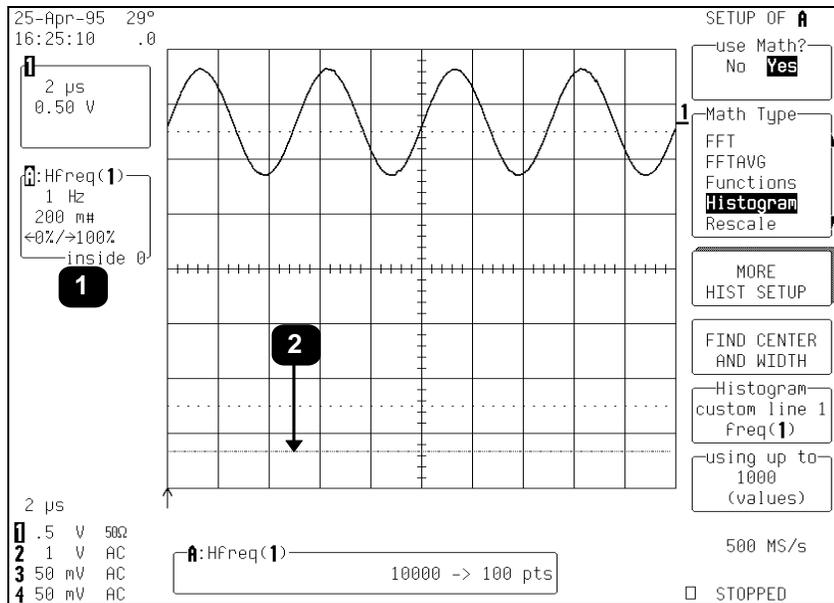

Figure 14-3.
5. Now, press  to display the histogram, for a display similar to that shown in Figure 14-3.